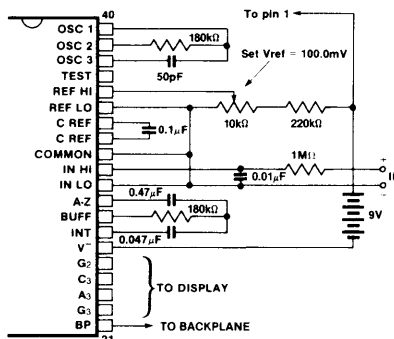

Figure 9. 7136 Using the Internal Reference. Values shown are for 200.0mV full-scale, 3 readings/sec, floating supply voltage (9V battery).
* Values depend on clock frequency. See Figures 9, 10, 11.